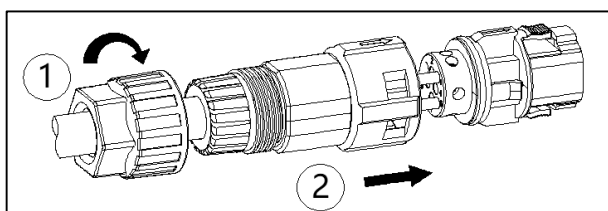

Figure 3.7-3 Assembling the plug
- 6) According to Figure 3.7-3, adjust the cable length, tighten the plug's tightening nut on the sleeve, and then push the connected plug into the sleeve.